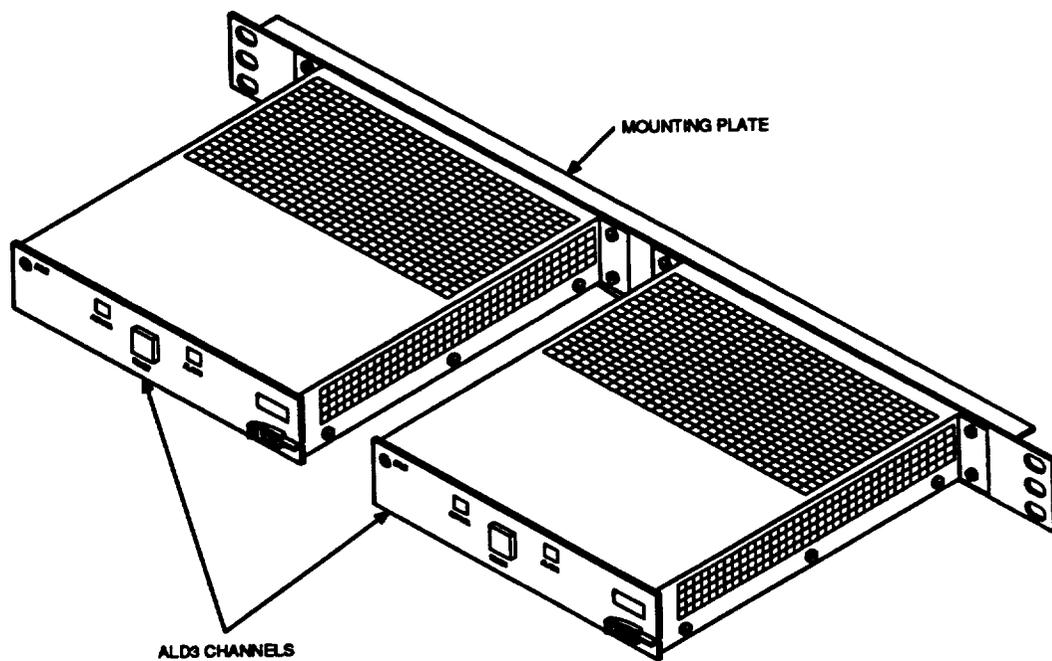

Figure 4. Remote Record Unit Equipped with Two ALD3 Circuit Packs
2.01 The 13A/14A Remote Record Unit shares the same physical configuration as the 14A Announcement System. The unit is 2 inches high by 23 inches wide by 11-1/2 inches deep, including the mounting plate and apparatus mountings for two independent channels (Figure 4). The ALD3 circuit pack(s) connect to 940A connectors mounted on the mounting plate. Wire wrap pins on the 940A connector's wiring side interconnect the unit for power and distribution to 13A and 14A Announcement Systems. The two apparatus mountings attached to the mounting plate receive the ALD3 circuit packs and guide them into the connectors via sliders. Table B describes the major components of the ALD3 circuit pack.
2.03 System controls and indicators are located on the faceplate of the ALD3 (Figure 4). These are described in Table C.